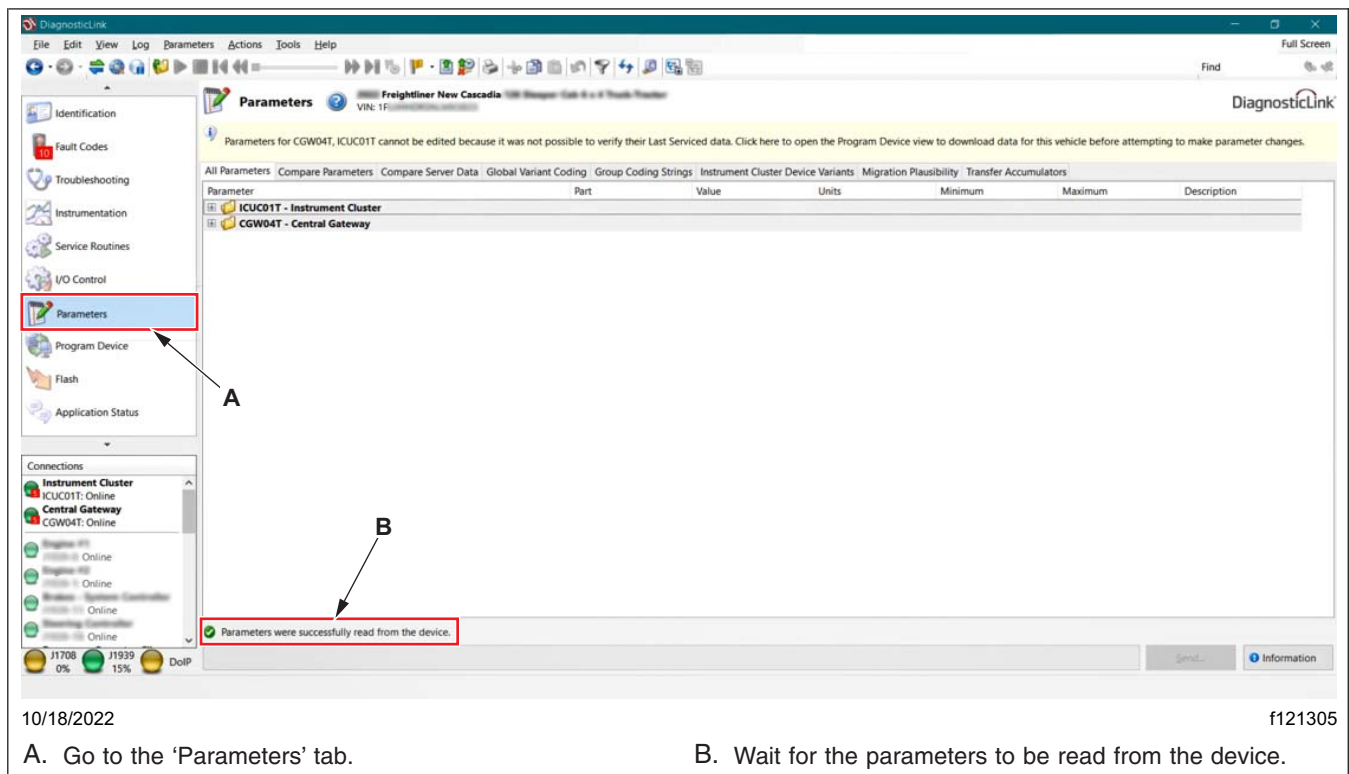

Fig. 29, Reading the ECU Parameters
12. Go to the 'Parameters' tab. See Fig. 29.